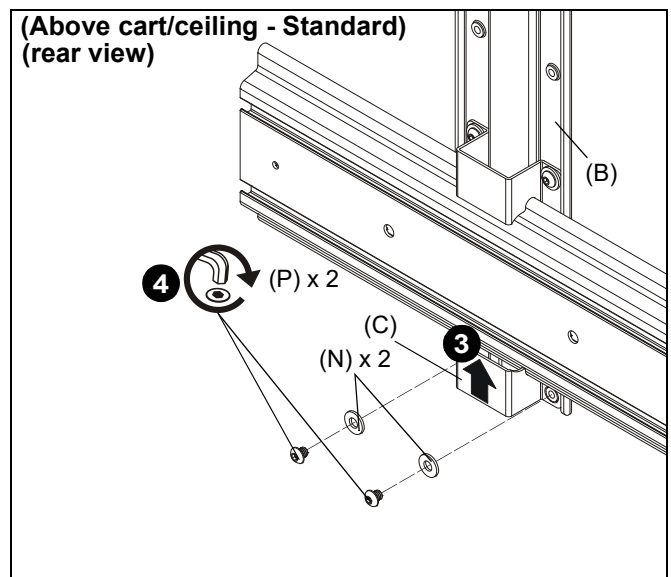

Figure 18
- Slide second shelf bracket (C) underneath head assembly, lining up holes on shelf bracket (C) to holes on main bracket (B). (See Figure 18)
- Use two 1/4-20 x 1/4" button head cap screws (P) and two large washers (N) to secure shelf bracket (C) to main bracket (B). (See Figure 18)